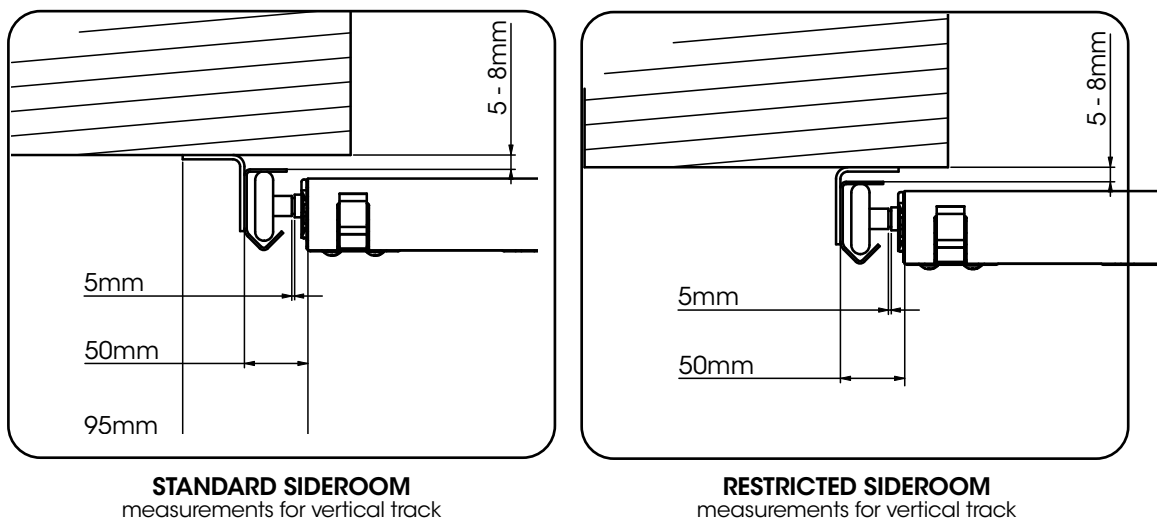

Fig: 3.1.2
**NOTE:** The small angle jamb brackets and the top angle bracket, provide adjustable slots to move the track out from the wall. Take note of Fig 3.1.2 for measurements.
- Ensure to follow the measurements as shown in Fig 3.1.2 to set out the placement of the track and brackets.
- Once satisfied temporarily fix in position with at least **three (3) fixings** to the top bracket and one to each of the lower track brackets. These will hold the tracks in position and allow for minor adjustments.
- Check that the wheels are sitting in the "V" groove of the vertical track on each side and there is sufficient clearance between the panel and the track as per Fig 3.1.2.
**! tip** Check that the clearance in the vertical tracks as per Fig 3.1.2 is also in the horizontal tracks